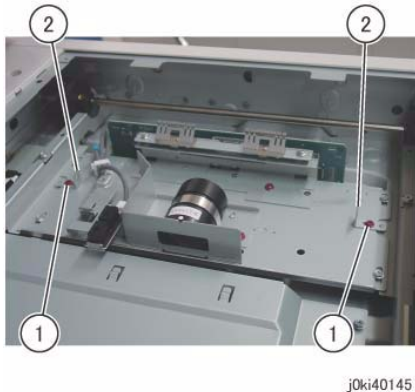

Figure 1 Remove the Jig pins
6. Remove the jig pin from the Lens Assembly. (Figure 1)